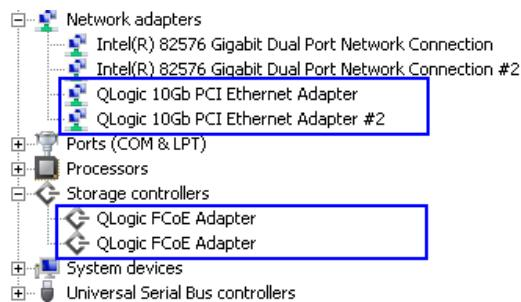

Figure 3-42. Confirming Port Classification and Health
- c. Verify that the port icon indicates a healthy state (a yellow or red mark on the icon indicates an unhealthy state). Figure 3-42 shows a dual-port QLogic 8100 adapter in Device Manager (Windows 2008) when the FCoE and NIC drivers are installed, and the Network Adapters and Storage Controllers sections are expanded.